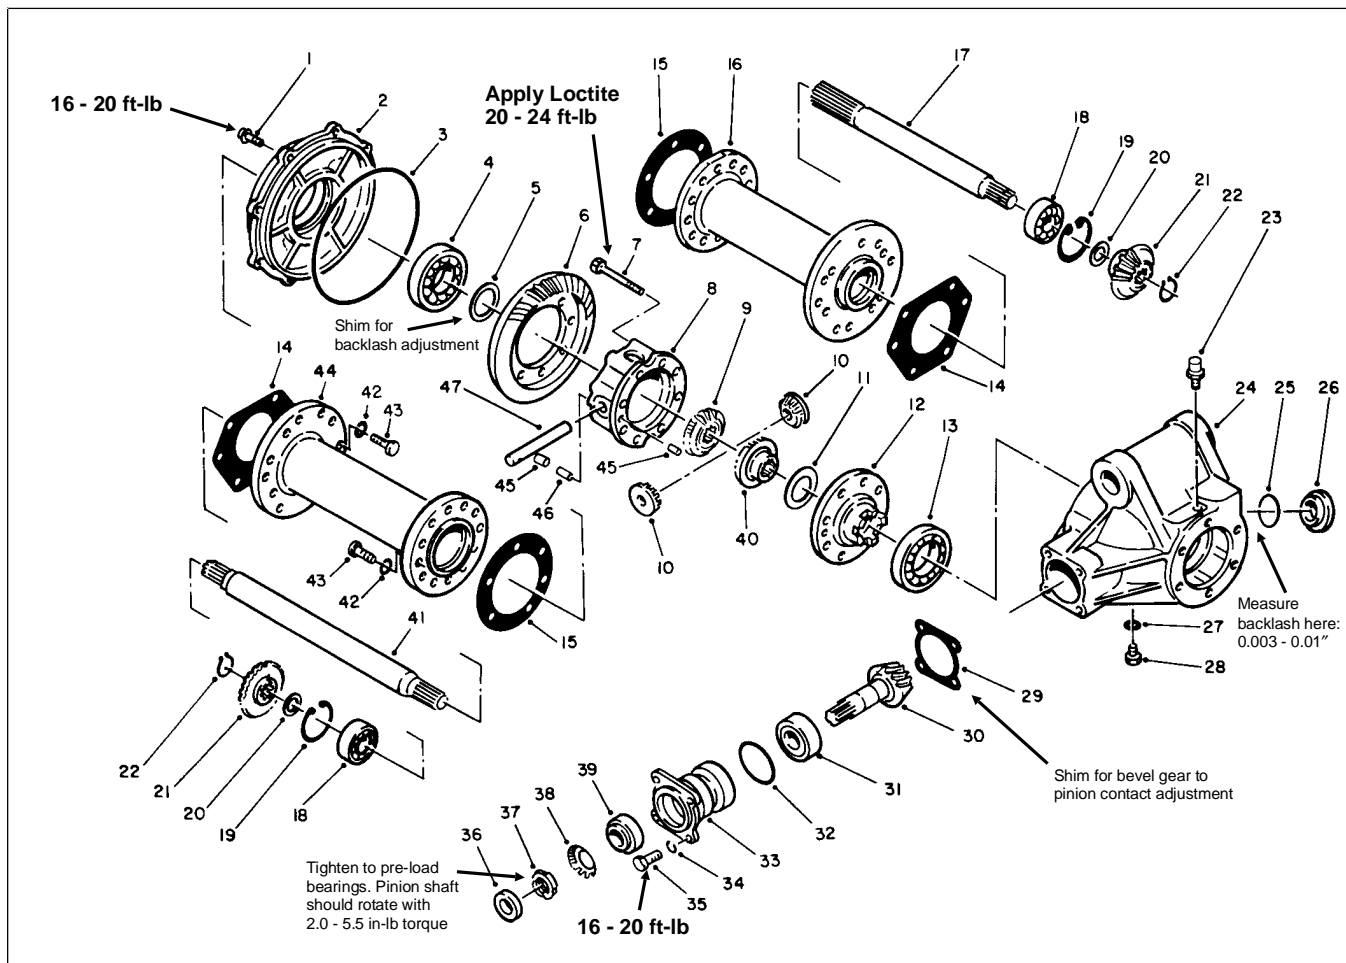

Figure 12
2. Remove bolts (Fig. 12, Item 43) securing axle tubes (Item 16, 44) to differential case (Item 24). Separate axle tubes and axles from differential case.
3. Remove bolts (Fig. 12, Item 43) securing axle tubes (Item 16, 44) to gearbox housings (Fig. 12, Item 23) of knuckle assemblies. Separate axle tubes and axles from knuckle assemblies.
5. Disassemble differential case (Fig. 12):
2. Assemble differential case (Fig. 12):